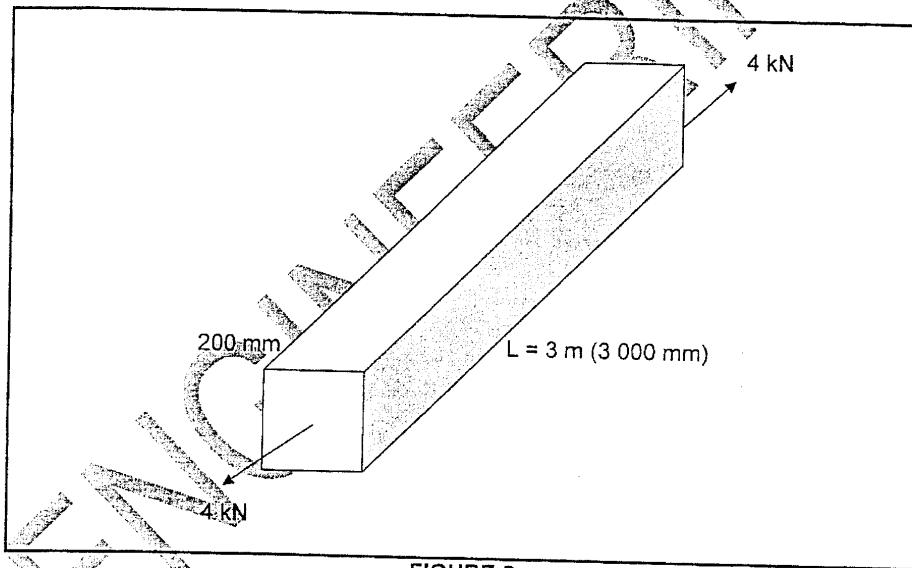

FIGURE 2
- 6.2 A force of 4 kN is applied to a square rod with sides of 200 mm and a length of 3 m, as shown in FIGURE 2, ANNEXURE (attached). The change in length after application of the force is 0,6 mm.